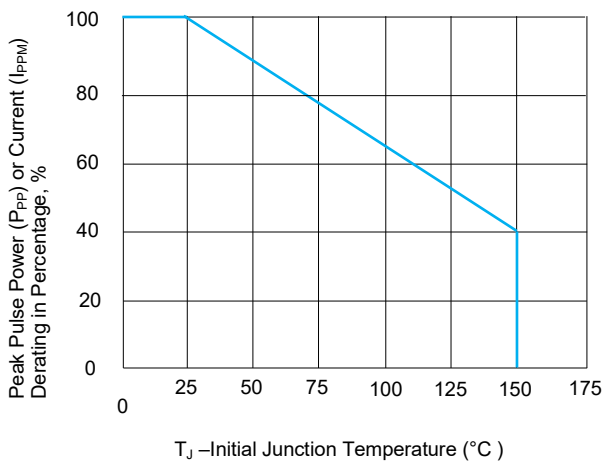

FIGURE 3 Peak Pulse Power Derating Curve
1. Non-repetitive current pulse, per Fig. 4 and derated above TJ(initial)=25 °C per Fig. 3.